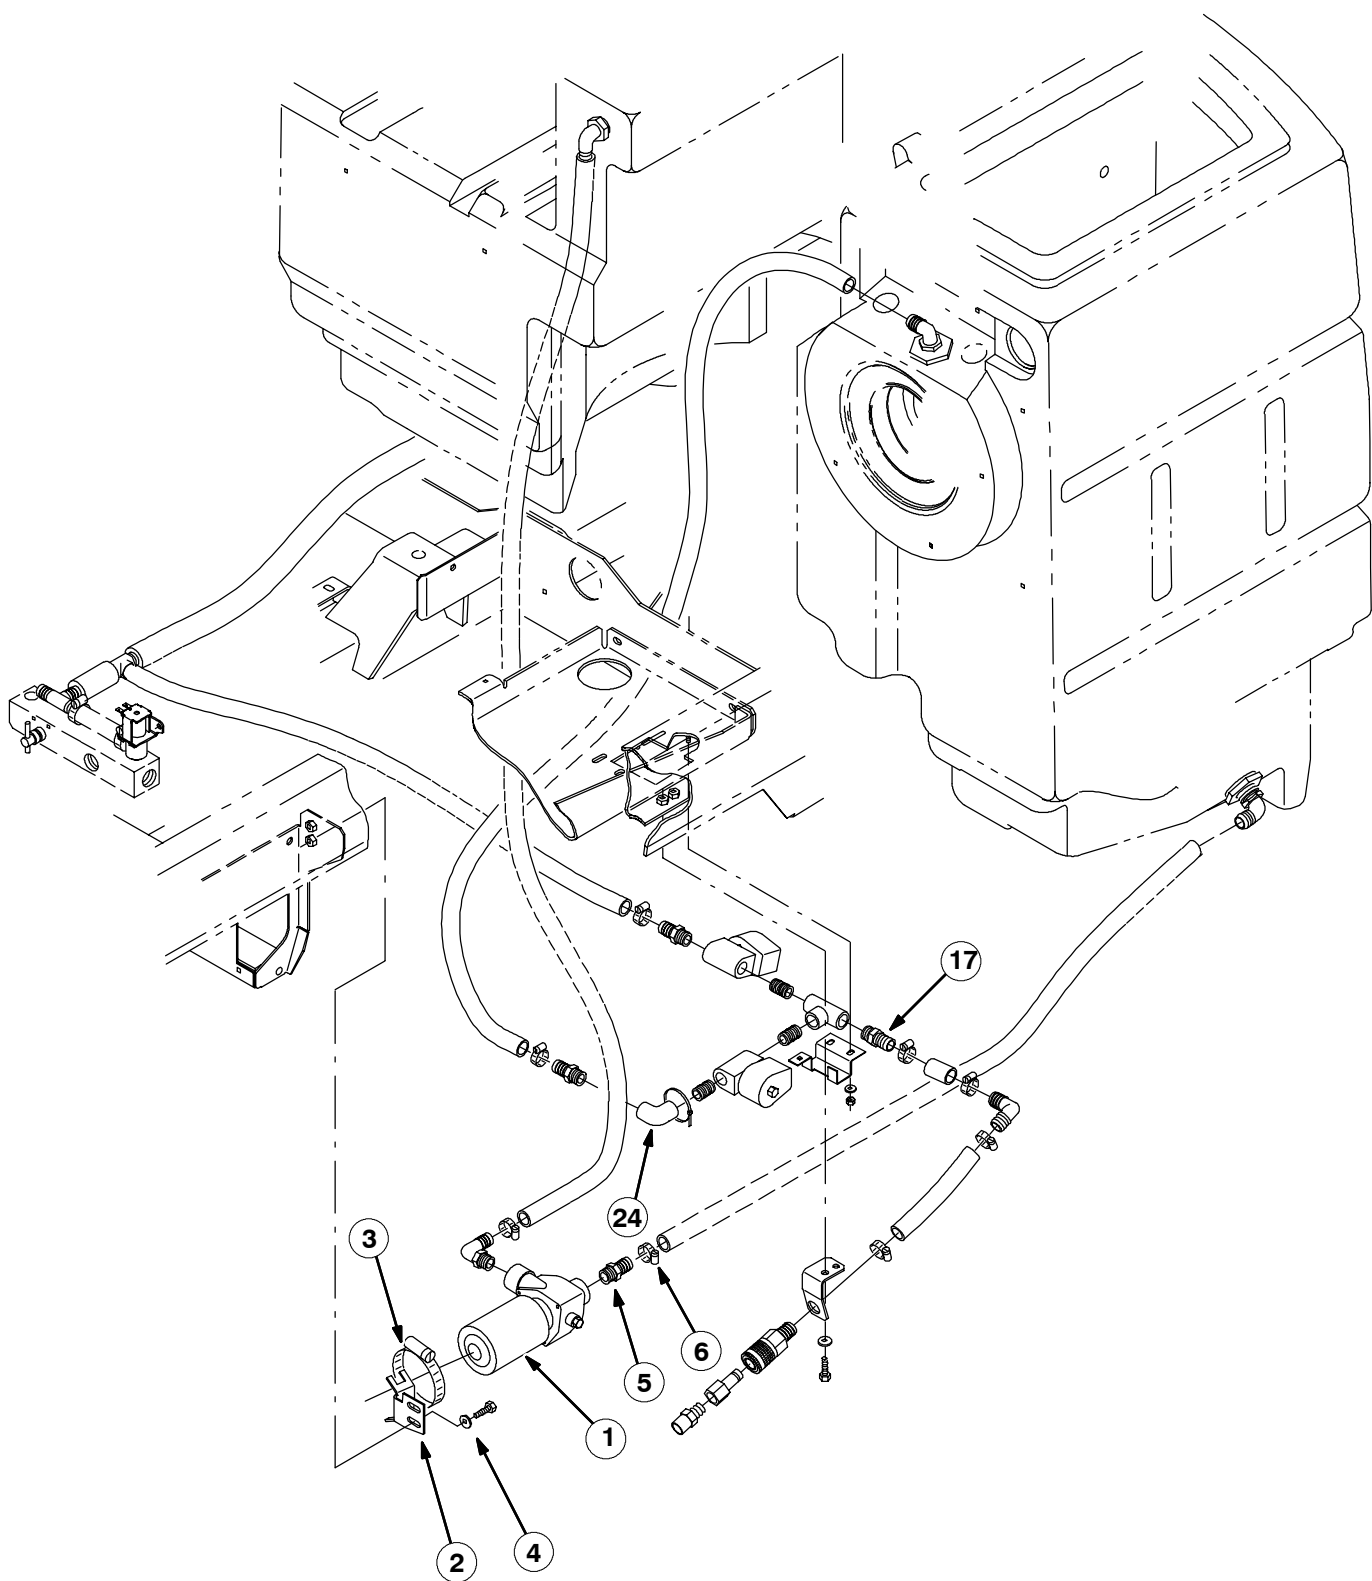

FIG. 1 - NEW ES™ PUMP AND AUTOFILL GROUP (xxxxxx-)
(Refer to FIG. 1 and 2)
10. Install the fittings 79273-2 (5) and 69785 to the pump (1). (Refer to FIG. 1)
11. Remount the pump (1) assembly to the frame. (Refer to FIG. 1)
12. Build up the solenoid valve assembly, with the following set aside parts: (Refer to FIG. 1)